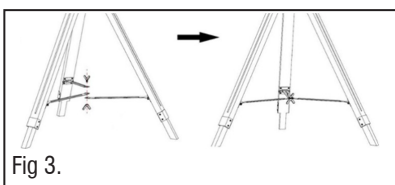

Fig 3.
3.2.1.5. Open the legs to connect the three metal link pipes using the wingnut. Shown in Fig. 3.